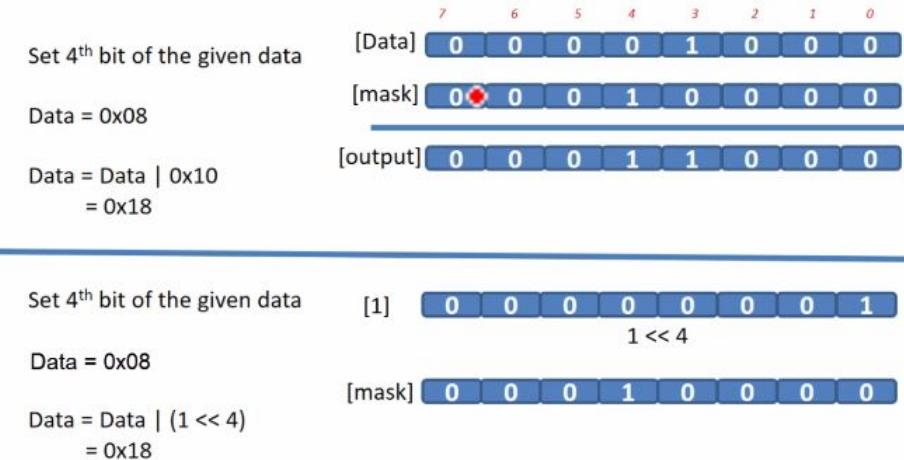

Figure 3.47: Bitwise shift to set a bit
1. Setting 4th bit: In Figure 3.47, we have the example using the old method and bitwise method